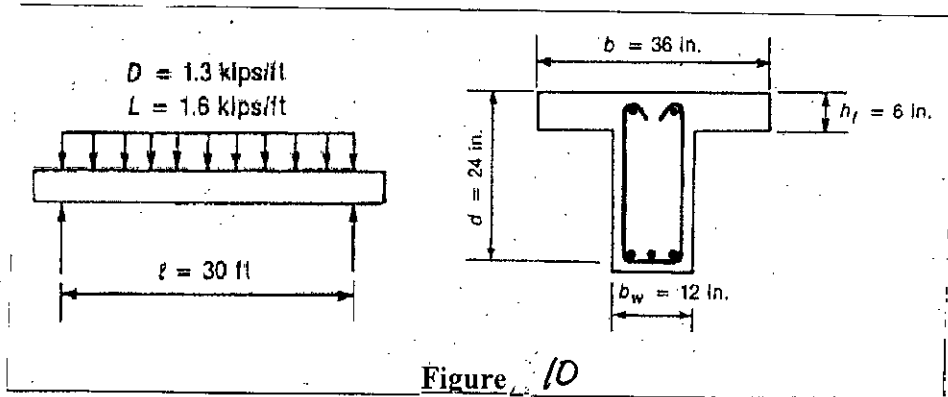

Figure 10
7. (a) Describe with neat sketches diagonal tension cracking in a reinforced concrete beam. (6)
(b) Design the shear reinforcement and show the spacing in a neat sketch for the simple supported beam with a span of 30 ft loaded as shown in Figure 10. The beam carries unfactored dead load, $D = 1.3$ kips/ft and unfactored live load, $L = 1.6$ kips/ft. Given, $f'_c = 3$ ksi, $f_y = 60$ ksi. (22)